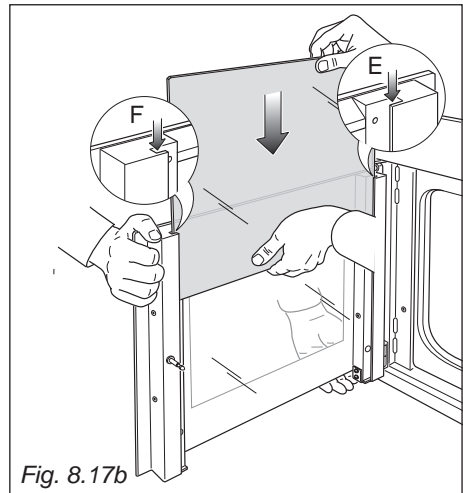
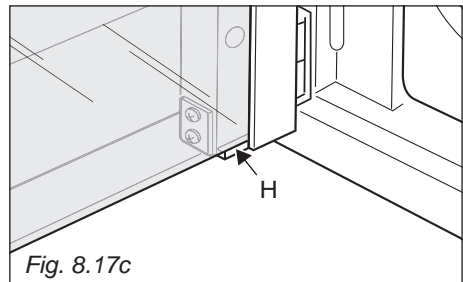

Fig. 8.17b
Fig. 8.17c
- Whilst one person holds the door still, a second person should insert the inner pane in the left “E” and right “F” side guides (fig. 8.17b) and gently let it slide up to the retainers “H” (fig. 8.17c). Forcible replacement of the door glass may lead to damage of the door hinges.